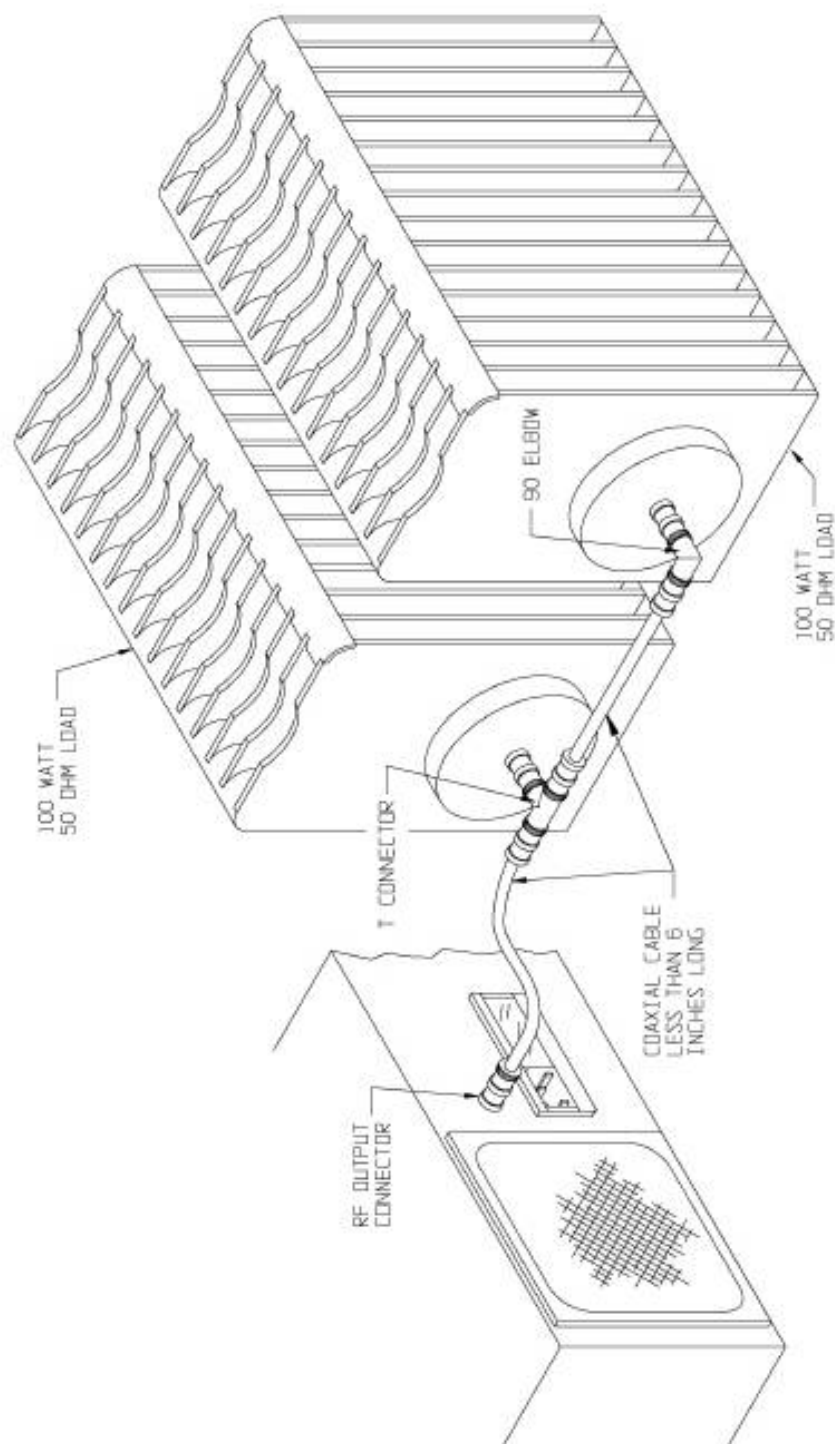

Figure 5-3. PARALLEL LOAD CONNECTIONS.
- h. Remove the external wattmeter. Refer to Figure 5-3 and connect two 100 watt, 50 Ohm test loads (in parallel) to the RF OUTPUT receptacle as shown.